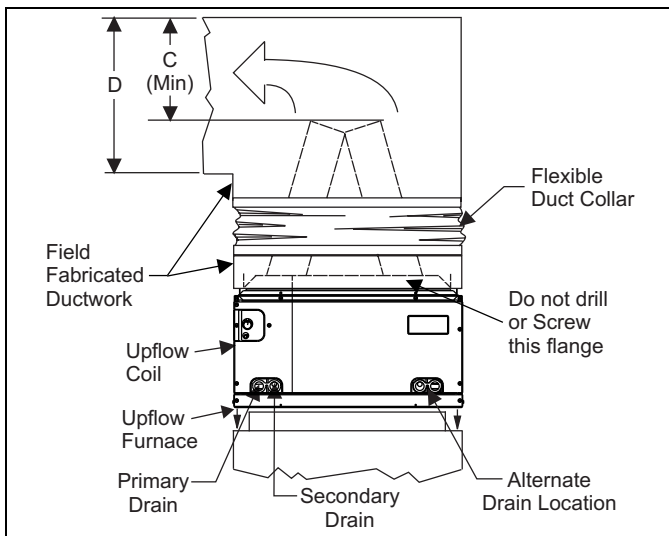

FIGURE 6: PC Series Upflow Coil Installation
1. Position the coil casing over the furnace opening as shown in Figure 6.
Do not drill any holes or drive any screws into the front duct flange on the coil in order to prevent damaging coil tubing. See Figure 6.
Dimension "C" should be at least 2/3 of dimension "D". See Figure 6.
These coils are supplied ready to be installed in a right hand position or a left hand position. When used in conjunction with a horizontal furnace (blow through) application, the coil should be oriented with the opening of the "A" coil closest to the furnace. See Figure 6.